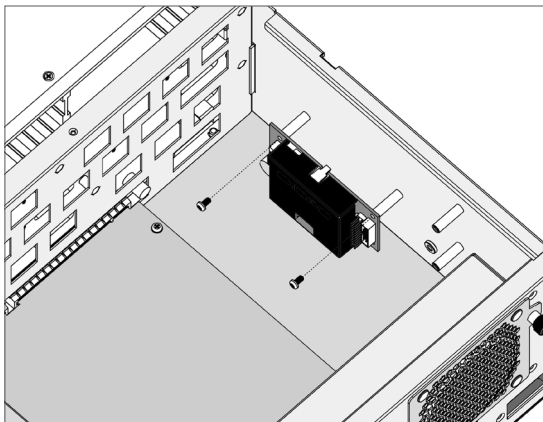

Figure B-6, Secure the Battery Module
2. After removing the cover, then secure the battery pack module (ARC-6120-BAT-12G, reference NO.1 in Figure B-1) on the right side within the enclosure (for ARC-7116), as shown in Figure B-6.